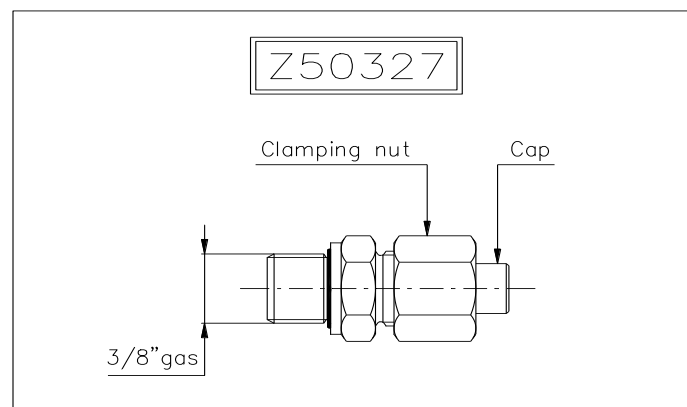

Figure 2 - Bleeding device
2. The brake, which can be powered both axially and radially, comes complete with a bleeding device (Z50327) as a standard feature. To bleed air out of the circuit, loosen the retaining nut of the fitting and pull the tubular cap outward. After bleeding off the air tighten the fitting again (Figure 2).